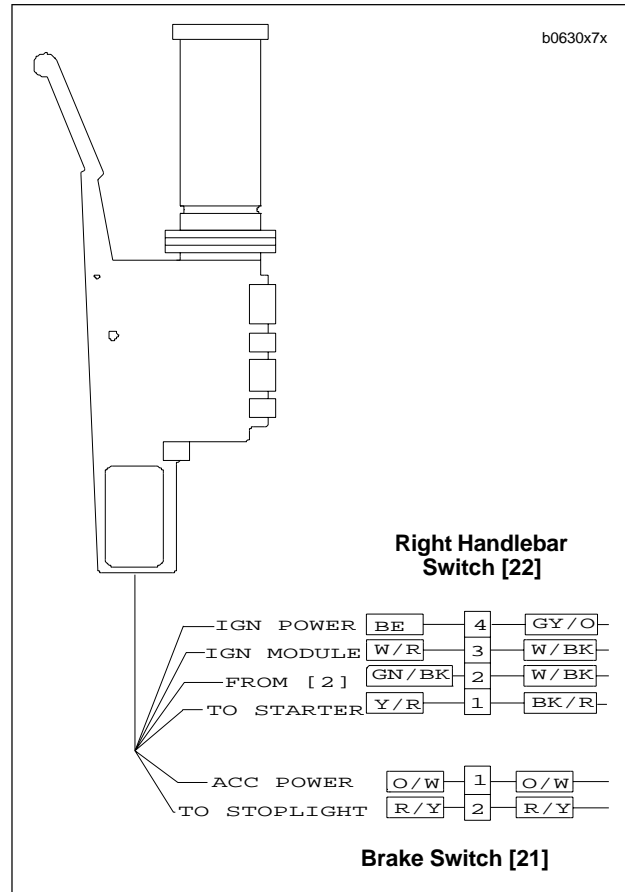

Figure 7-47. Right Handlebar Switch Connection
4. See Figure 7-47. Cut as many cable straps as necessary to access right handlebar switch connector [22] along right side frame tube. Detach connector [22] from wiring harness.
3. See Figure 7-47. Route switch housing wiring harness between front forks and along right side frame tube. Attach connector [22] and, if necessary, connector [21] to wiring harness. Fasten wiring harness to frame with **new** cable straps.